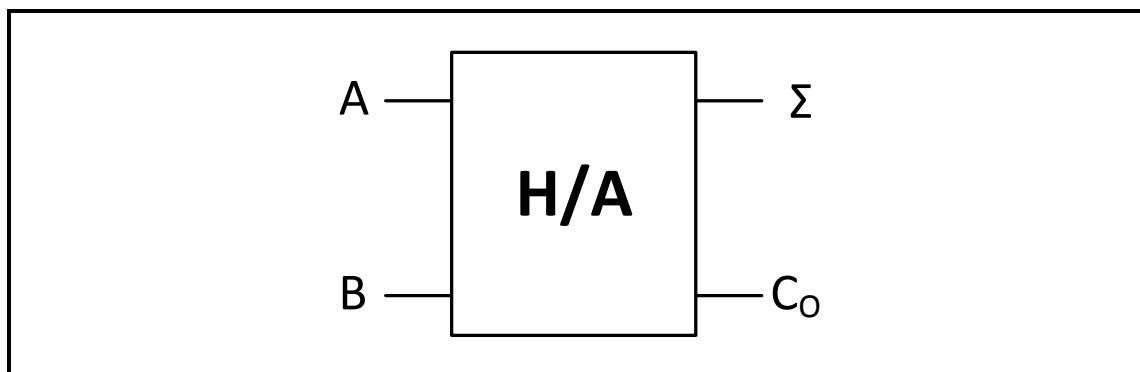

FIGURE 5.5: LOGIC SYMBOL OF A HALF-ADDER
5.5 FIGURE 5.5 below represents the logic symbol of a half-adder. Answer the questions that follow.